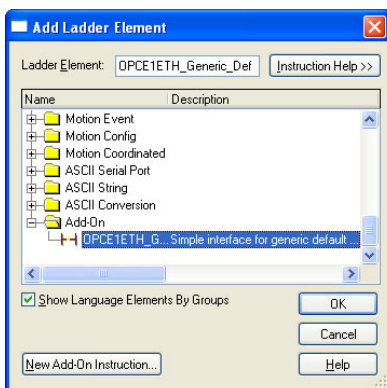

Figure 93: Add Generic Default AOI
- 8) Select the generic default I/O AOI in the Add-On folder. Refer to Figure 93.